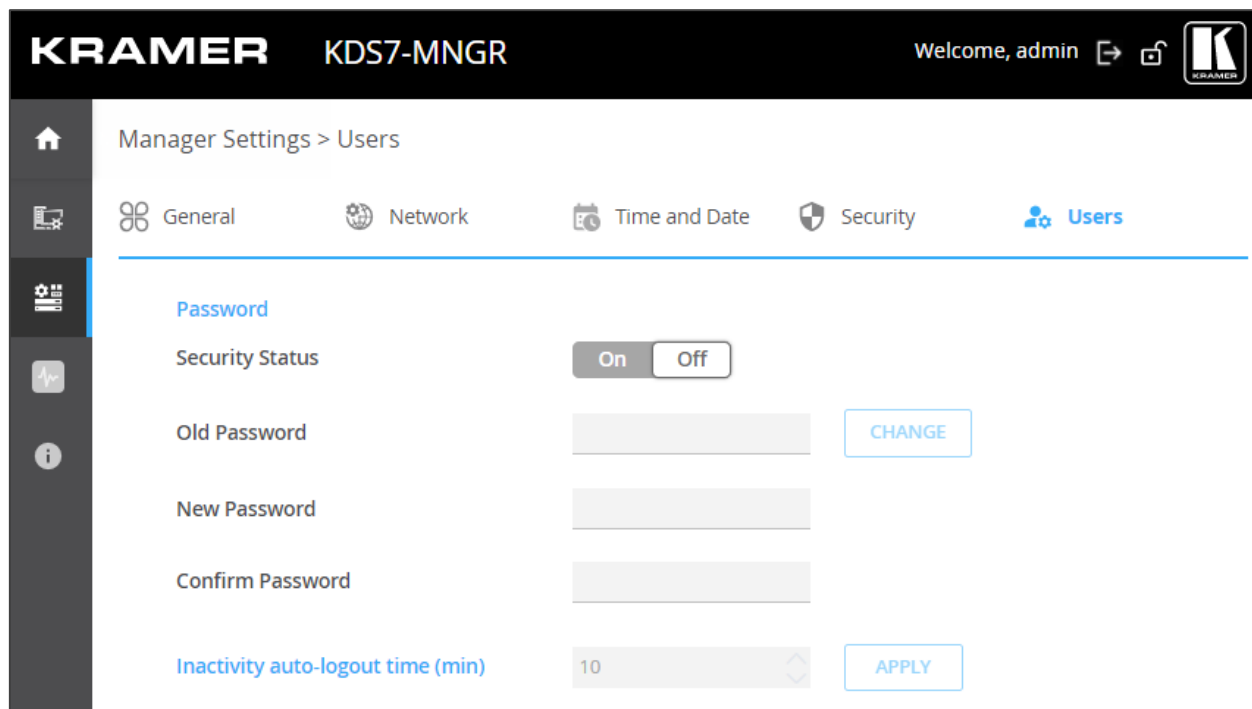

Figure 59: Device Settings – Users Tab
2. Select Users tab (see Figure 59).